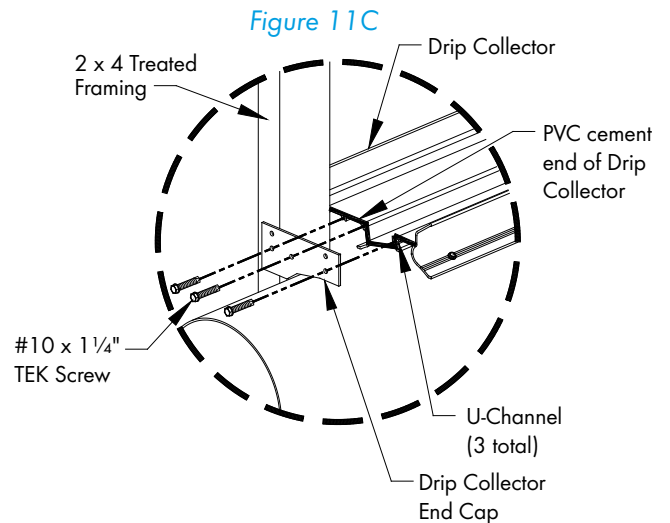

Figure 11C
Apply PVC cement to left end of Drip Collector. On left side of system line up the 3 holes in the Drip Collector End Cap to the 'U' Channels in the Drip Collector, fasten using (3) #10 x 1/4" TEK Screws (provided). See Figure 11C.